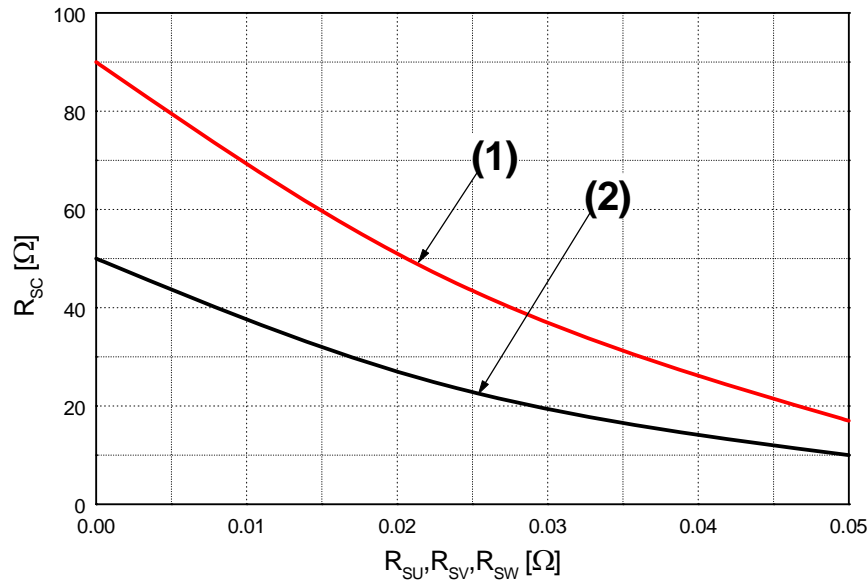

Figure 6. R_{sc} Variation by Change of Shunt Resistors (R_{SU} , R_{SV} , R_{SW}) for Short-Circuit Protection
- Short-circuit protection is functioning only at the low-sides. It would be recommended that the value of the external sensing resistor (R_{SC}) should be selected around 50 Ω in order to make the SC trip-level of about 45A, at the shunt resistors (R_{SU}, R_{SV}, R_{SW}) of 0 Ω. For the detailed information about the relationship between the external sensing resistor (R_{SC}) and the shunt resistors (R_{SU}, R_{SV}, R_{SW}), please see Figure 6.